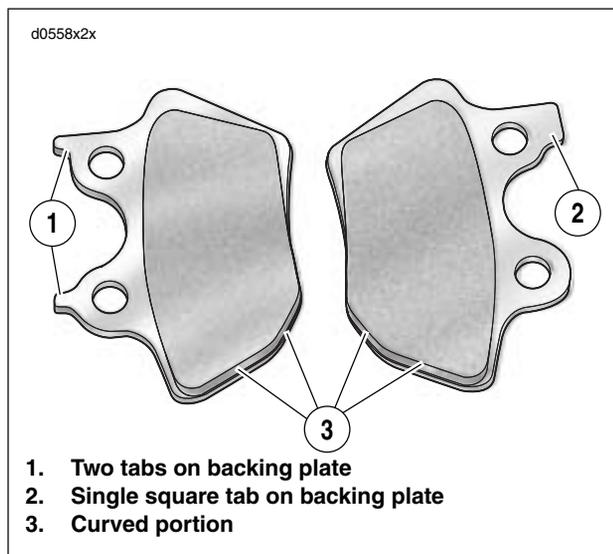

Figure 2-59. Brake Pads
- See Figure 2-59. Insert **new** set of brake pads into caliper with friction material on pad facing opening for brake disc. Curved portion of pad must face upward when caliper is installed.